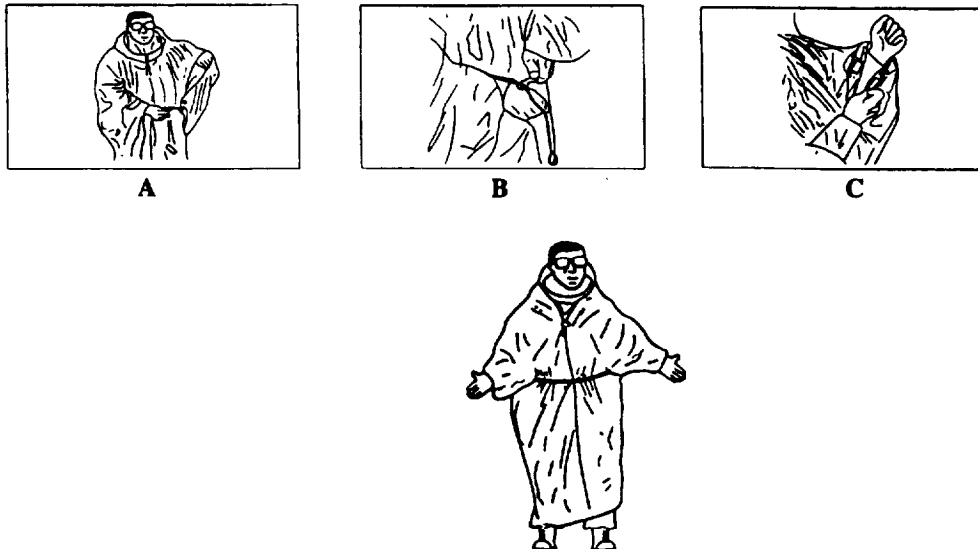

Figure 2-10. Tent, Great Coat
- (6) To use the tent as a Long Coat (See Figure 2-10), proceed as follows:
- (I) Check the length of the long coat and if too long, pull up excess fabric under the waist cord. The elastic waist cord will keep the fabric in place.
- (J) Push extra fabric from the right sleeve to the rear. Smooth the fabric on the chest area by pressing extra fabric to the rear. The Great Coat should look like Figure 2-10. Ensure the fabric is evenly distributed to the back. Check hem length. The tent unlike the poncho, protects all around. Properly positioned, the front and back should be even with the ground and if not, adjust the zipper slide which is located above the draw cord. If not properly adjusted, it will leave a space on your back open to the elements.